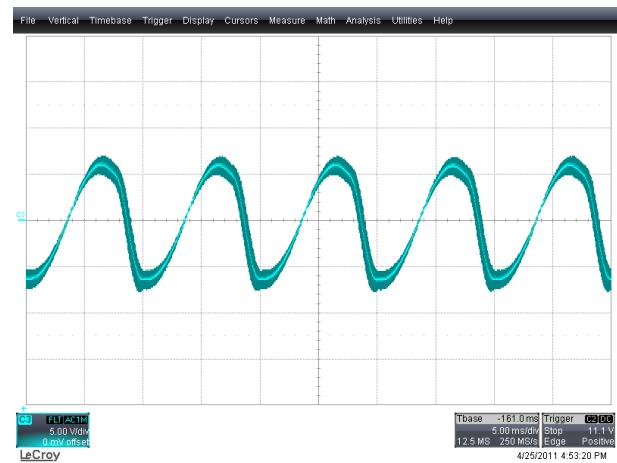

Figure 47 – Ripple, 264 VAC, 100% Load.
- The PFC stage was supplied from an adjustable DC source for this test. Connect the circuit as shown in Figure 47. Open the top end of the feedback divider network and insert a 100Ω , 2 W resistor in series as shown. The signal injected in the loop for gain-phase measurement will be injected across this resistor.